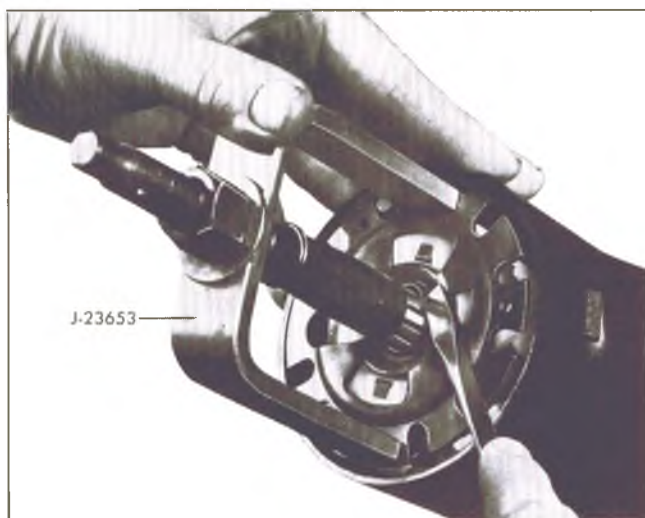

Fig. 49—Removing Lock Plate Retaining Ring
4. Screw the center post of Lock Plate Compressing Tool J-23653 onto the steering shaft as far as it will go. Compress the lock plate by turning the center post nut clockwise (fig. 49). Pry the round wire snap ring out of the shaft groove and discard the ring. Remove Tool J-23653 and lift the lock plate off the end of the shaft.